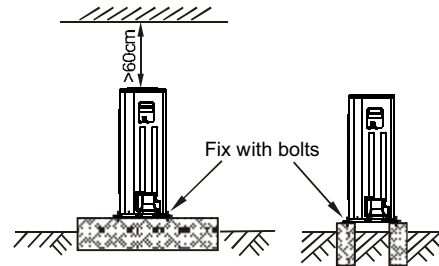

Fig. 6-6
- Mount on a firm, stable base in accordance with the specification of the outdoor units. (Refer to Fig. 6-6)
- Fasten the mounting feet securely with bolts to prevent the unit from moving, or falling in strong winds. (Refer to Fig. 6-6)